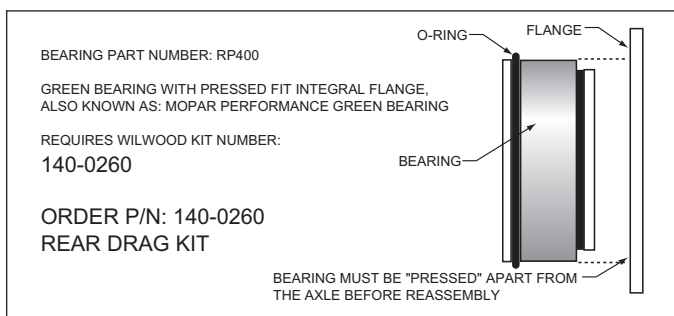

Figure 1. Press Fit Bearing Configuration
- It is important to verify which bearing you have. There are two types of "Green Bearings" being supplied by axle manufacturers, each one requires a specific Wilwood rear disc brake kit for proper installation. Your setup should look like Figure 1, otherwise you have the wrong